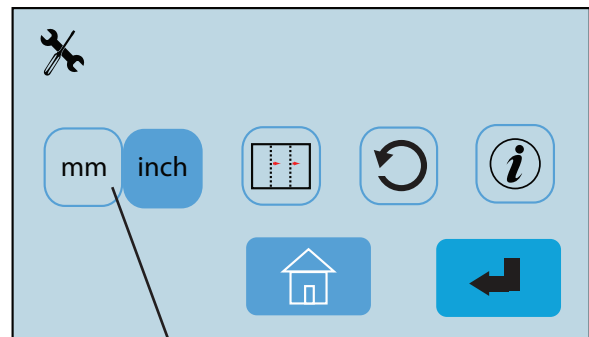

Fig. 24
1. From the Operator Settings screen (Fig. 23) press the measurement setting icon   (Fig. 24) to change between settings. The icon highlighted in blue is the selected setting. By changing this setting the paper sizes will change from standard to metric or vice versa.